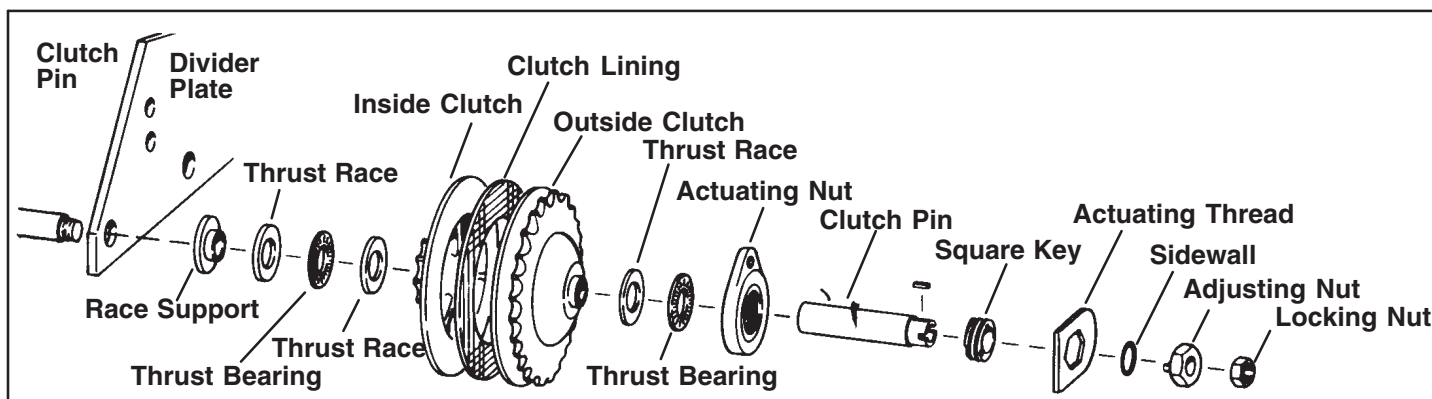

Fig. 92 Clutch Assembly Parts
6. Reach into the transmission case and support the clutch assembly with your hand. Pull the clutch shaft until the end is at the center divider plate, just free of the clutch assembly. The clutch assembly may now be lifted out of the transmission case. Fig. 92 shows the parts of a clutch assembly.